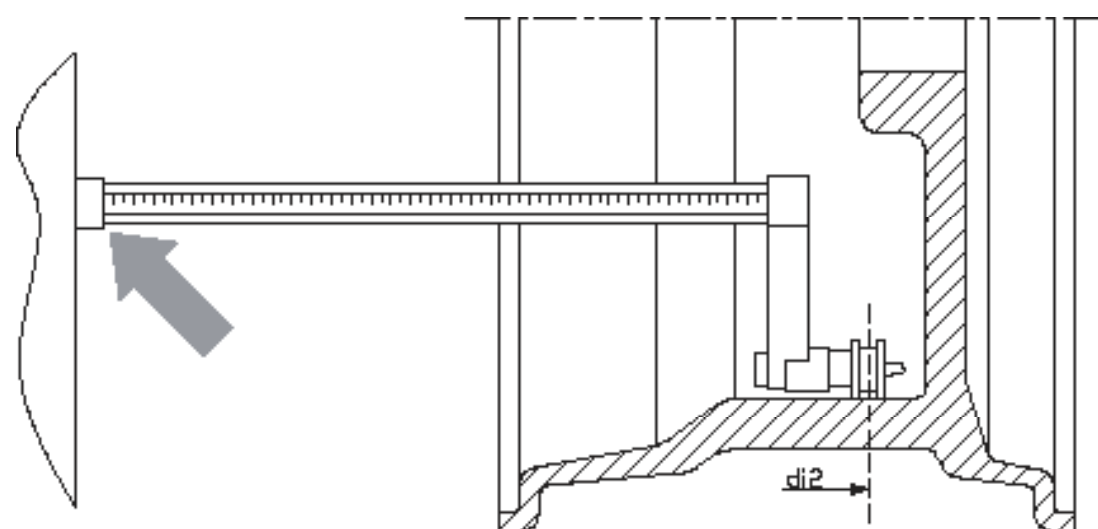

Figure F3.5 - Manual Acquisition of the external plane distance in the ALS1 and ALS2 Programme Types
6. Extract the distance sensor and place it on the plane chosen for the external weight as shown in Figure F3.5;